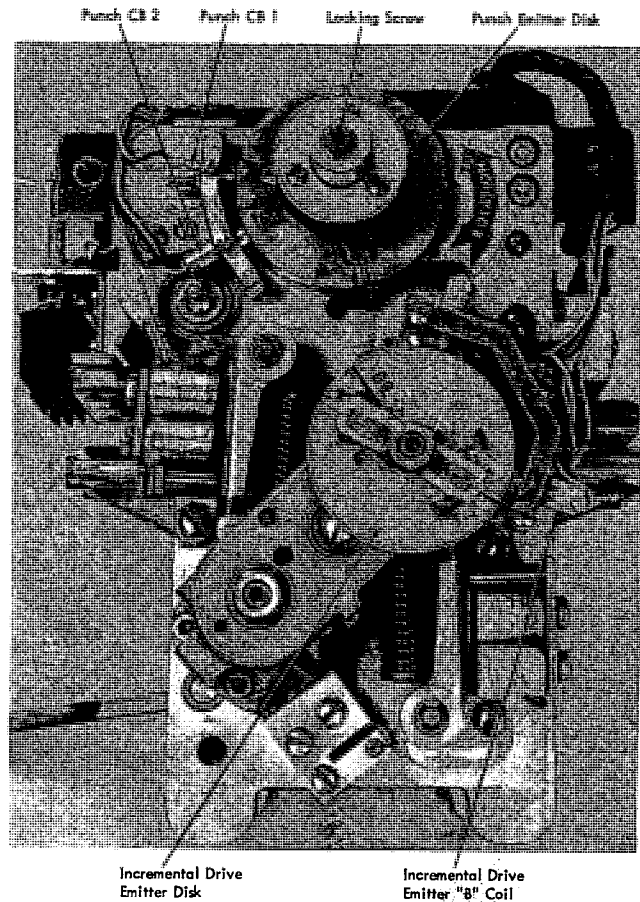

Figure 4-7. Punch and Incremental Drive Emitters
1. Loosen screw on front end of punch camshaft (Figure 4-7).
3. Align one of the magnets on the punch emitter disk (Figure 4-7) with the upper coil core (Punch CB 1) and tighten screw on front of punch camshaft.
1. Loosen nut on incremental drive emitter shaft (Figure 4-7).